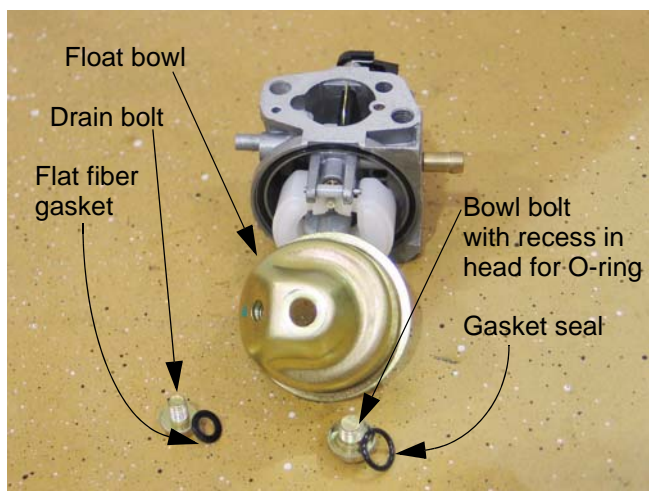

Figure 4.39
3. Remove the bowl bolt using a 10mm wrench. See Figure 4.39.